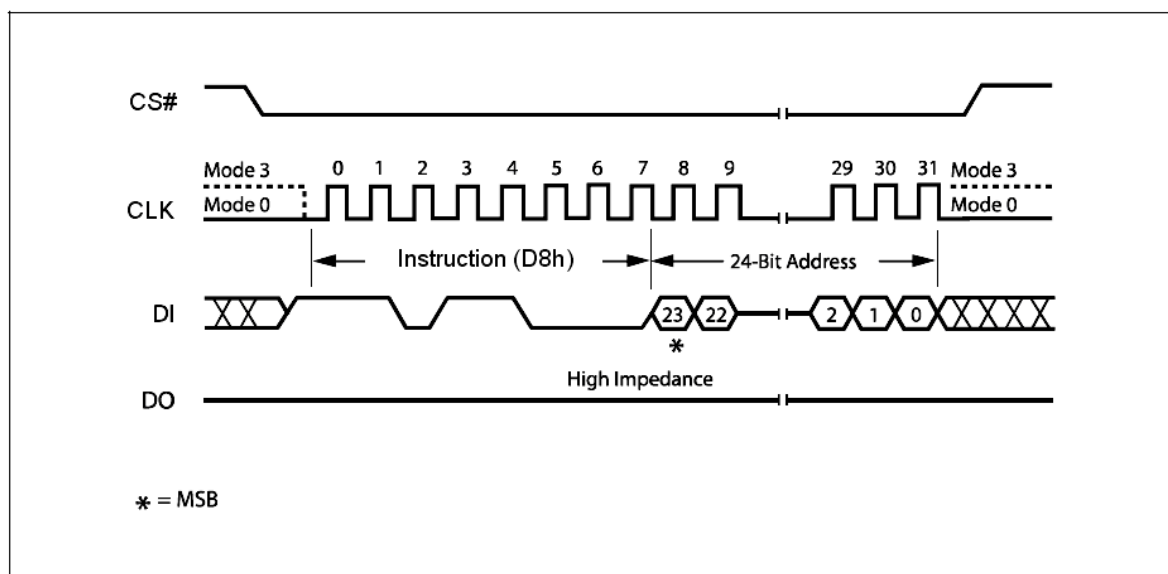

Figure 22. 64KB Block Erase Instruction Sequence Diagram
The instruction sequence is shown in Figure 22. Chip Select (CS#) must be driven High after the eighth bit of the last address byte has been latched in, otherwise the Block Erase (BE) instruction is not executed. As soon as Chip Select (CS#) is driven High, the self-timed Block Erase cycle (whose duration is t_{BE}) is initiated. While the Block Erase cycle is in progress, the Status Register may be read to check the value of the Write In Progress (WIP) bit. The Write In Progress (WIP) bit is 1 during the self-timed Block Erase cycle, and is 0 when it is completed. At some unspecified time before the cycle is completed, the Write Enable Latch (WEL) bit is reset.